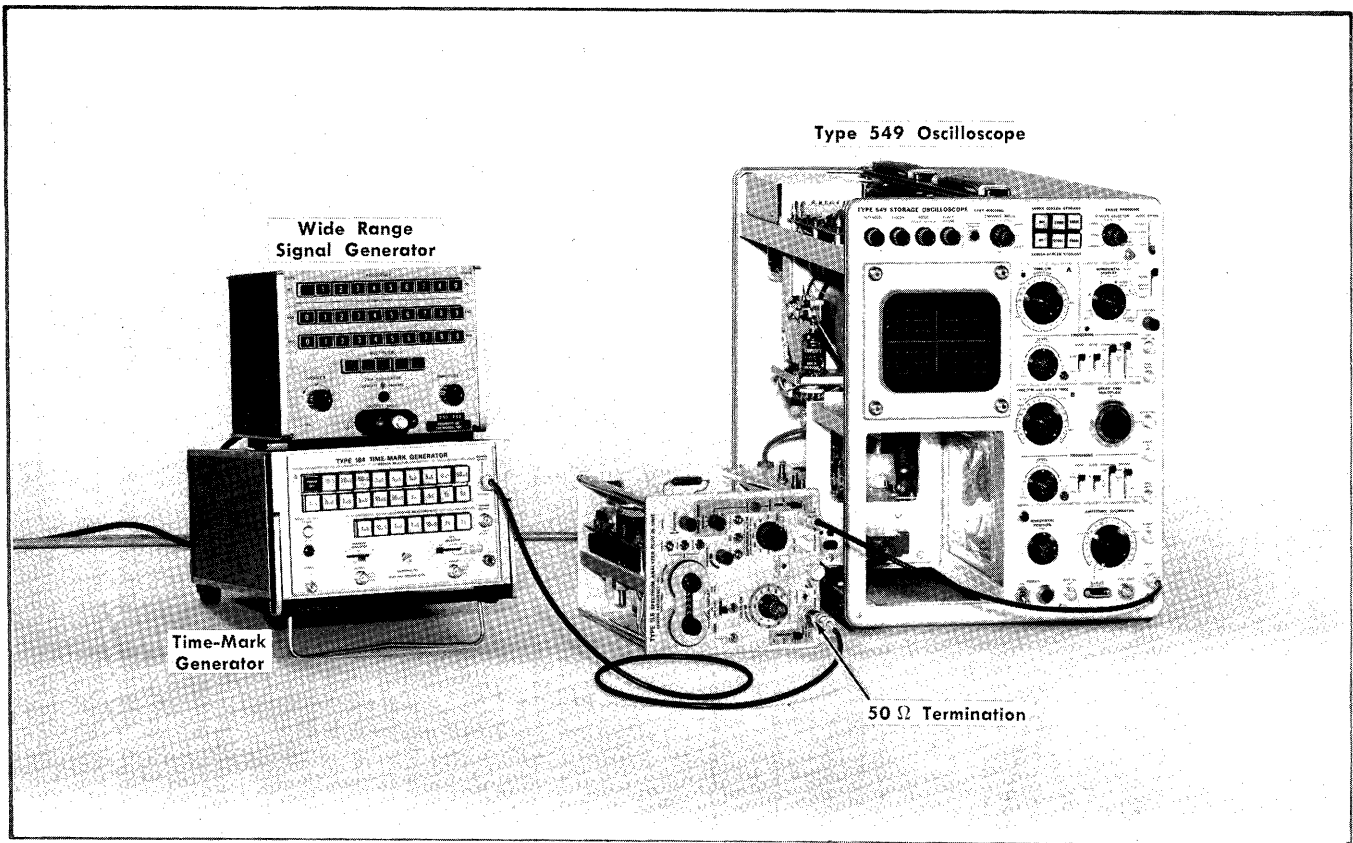

Fig. 6-8. Equipment setup to adjust or check dispersion and center frequency accuracy.
3. Adjust Dispersion and Center Frequency ①
a. Equipment setup is shown in Fig. 6-8.